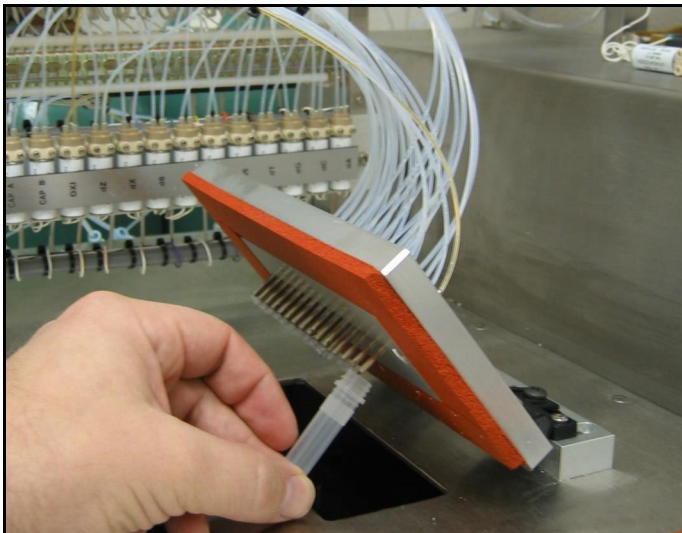

Figure 9
When performing valve calibration it is easier to unlock and raise Injection Head so that injection lines are more accessible (*Figure 9*).
1. Collect injection with a small Eppendorf tube (1) (*Figure 9*).